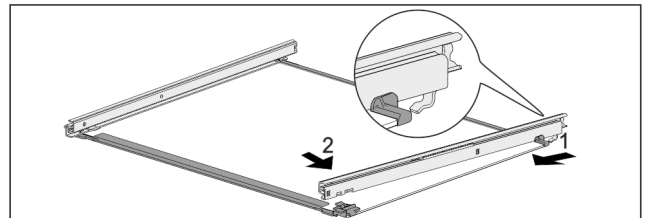

Fig. 187 Glass shelf with rails
- ▶ Hook in rail at the back. Fig. 187 (1)
- ▶ Hook in rail at the front. Fig. 187 (2)